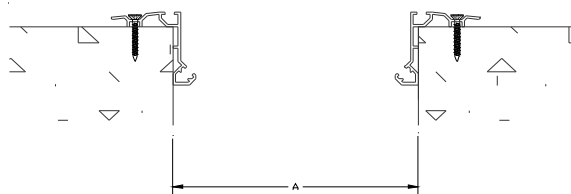

Figure 4
**STEP 9.** Using the fasteners provided by the factory, attach the base members to the substrate, see Figure 4. Ensure that the base members remain properly aligned, level, and straight.